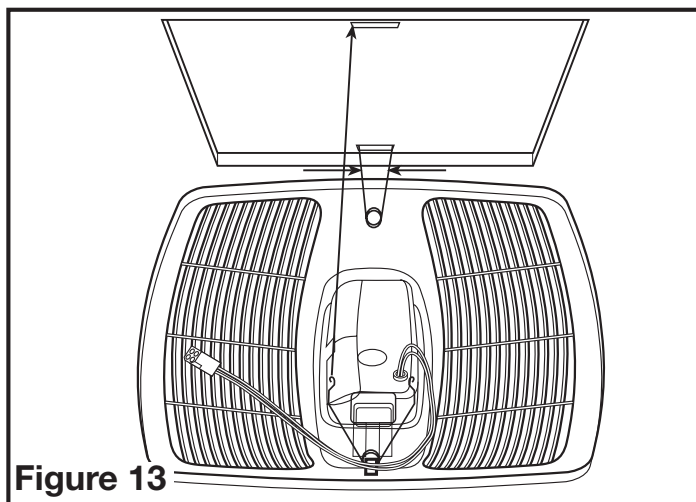

Figure 13
5. Install the grill by squeezing the springs together and installing it up into the slot furthest from the wire compartment on the fan's housing. Attach the 4 pin quick connect from the grill to the 4 pin connector on the top of the wire cover. The cord will only fit one way into the receptacle. Install the other spring and push the grill up into position. (**Figure 13**).